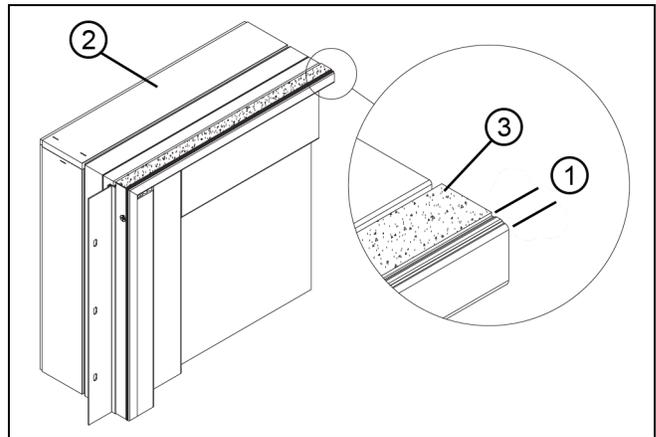

Figure 39
3. Apply one sided mull tape the entire length of door head jamb ensuring it is located 1/4" (6) from the exterior edge of the Ultrex frame. See Figure 39.